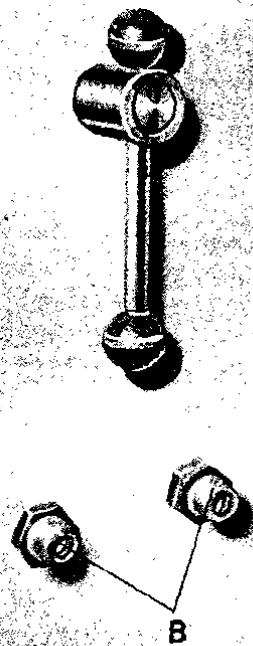

FIG. 6.
Loose socket head screws (B) fig. 6; turn bar (A) fig. 6 clockwise for left hand side tilting or turn counter-clockwise for right hand side tilting. Turn band wheels and see blade tracks properly, then tighten the screws (B) fig. 6 up.